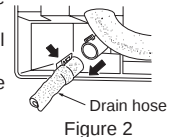

Figure 2
- Pull out the drain hose at the rear left of the indoor unit. (Figure 2)